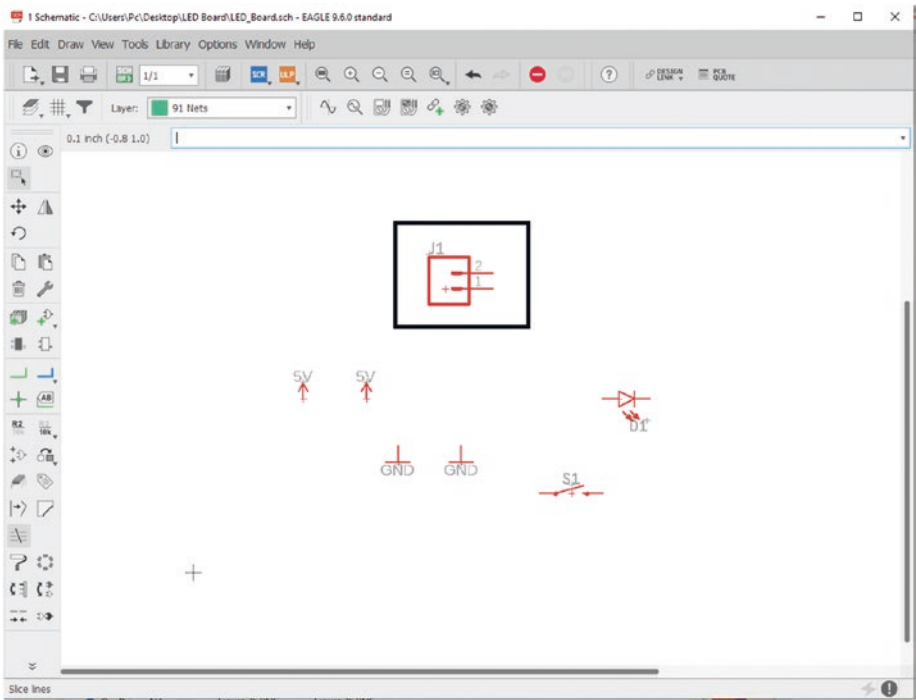

Figure 5-37. Add the 5mm terminal block to the schematic window
24. Double-click the “CONN_025MM” and add it to the schematic window. See Figure 5-37.